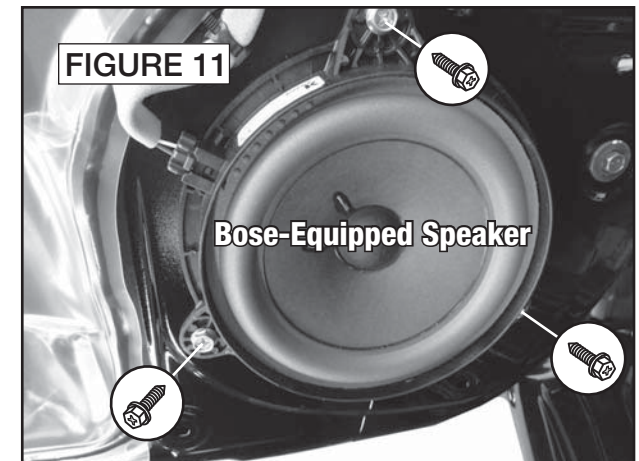

FIGURE 11
12. Pry up rear deck panel to release eight (8) clips. Work seat belts through slots in panel and remove panel (Figure 11).